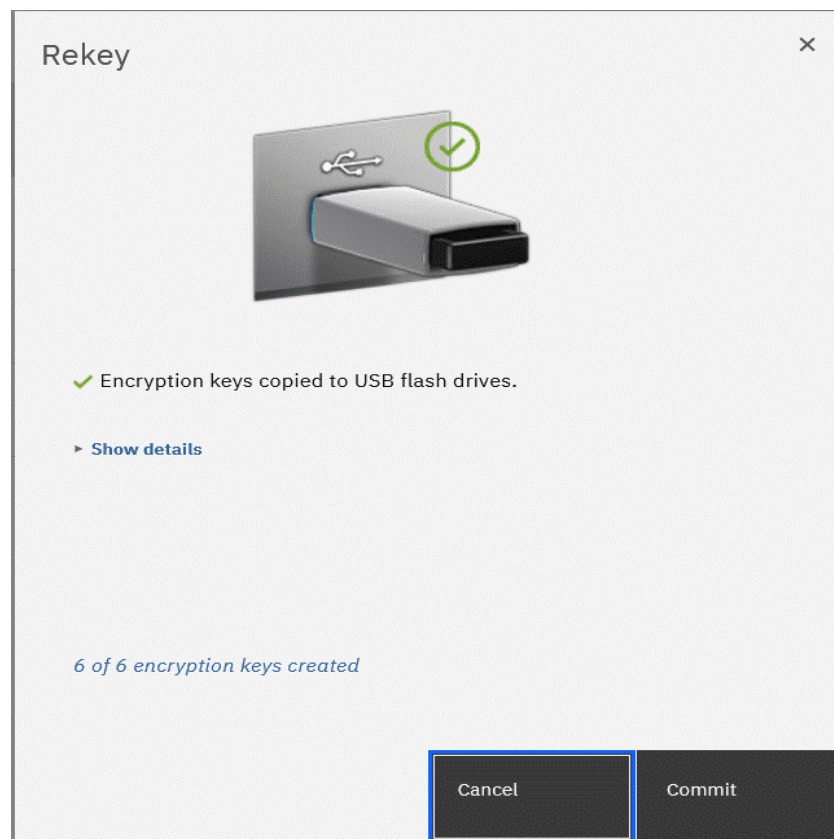

Figure 12-74 Writing new keys to USB flash drives
3. If the system detects a validated USB flash drive and at least three available USB flash drives, new encryption keys are automatically copied on the USB flash drives, as shown in Figure 12-74. Click **Commit** to finalize the rekey operation.